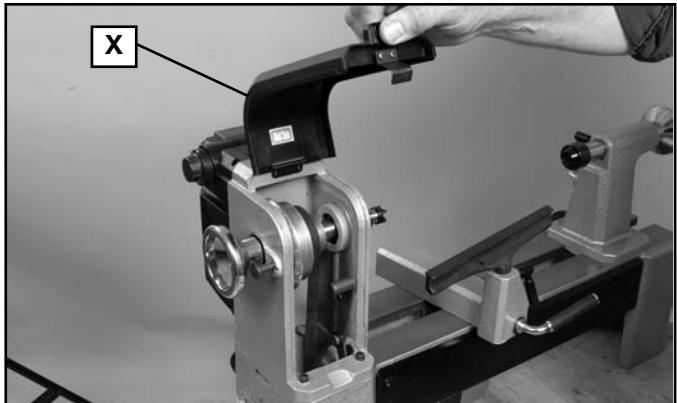
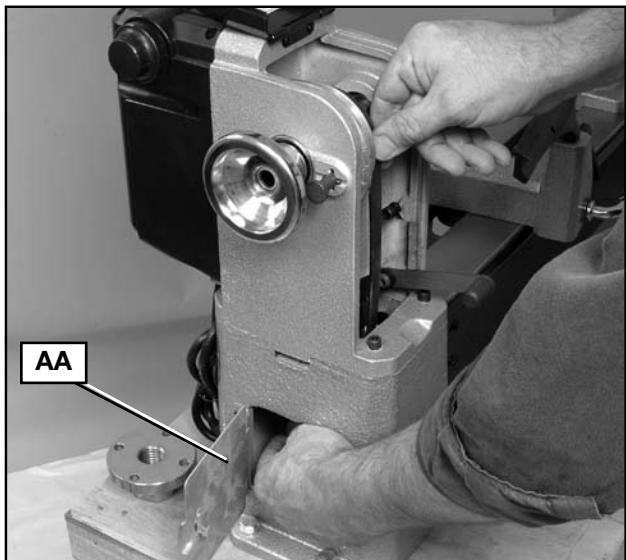
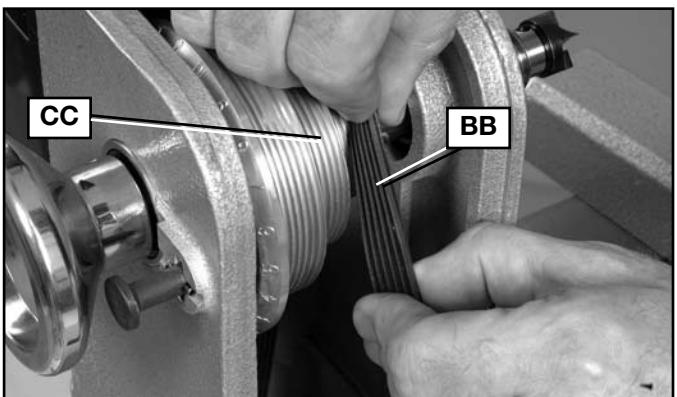

Fig. 14
Fig. 16
Fig. 17
1. Lift up pulley cover (X) Fig. 14.
3. Open lower side door (AA) Fig. 16 and move belt to desired pulley step according to the speed chart on inside of pulley cover (X) Fig. 14 **NOTE:** Be sure the grooves on the inside of the belt (BB) Fig. 17 fully engage the grooves (CC) on both pulleys and that the belt does not hang off the edge of the pulley.
5. Close both the lower side door (AA) Fig. 16 and the pulley cover (X) Fig. 14 securely.
1. Open pulley cover (X) Fig. 14 and side door (AA) Fig. 16.
5. Close lower side door (AA) Fig. 16 and pulley cover (X) Fig. 14 securely.